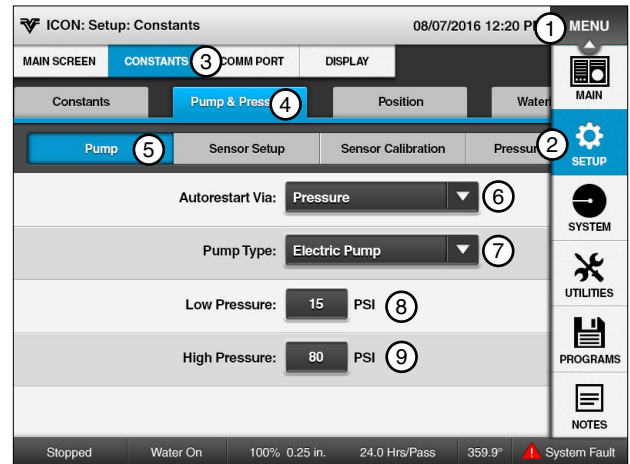

Figure 21-1
The **Pump Type** field is used to select and control the type of pumping unit that is being used with the machine. The choices are Engine Pump or Electric Pump. The factory default setting is **Electric Pump**. Refer to Figure 21-1.
1. Push **Menu, Setup, Constants, Pump & Pressure and Pump**. Refer to Figure 21-1.
- a) Select the **Auto Restart Via** drop-down menu. Refer to Figure 21-1.